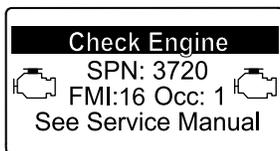

Figure 46
- Engine warning SPN 3720, FMI 16 (Figure 46)